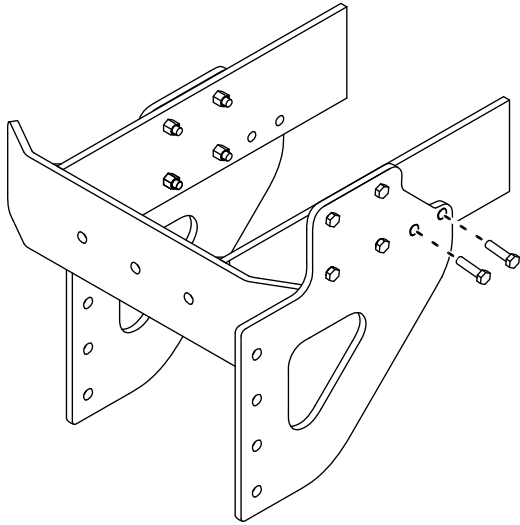

Figure 3
4. Install the 2 bolts and nuts previously removed, as shown in Figure 3.